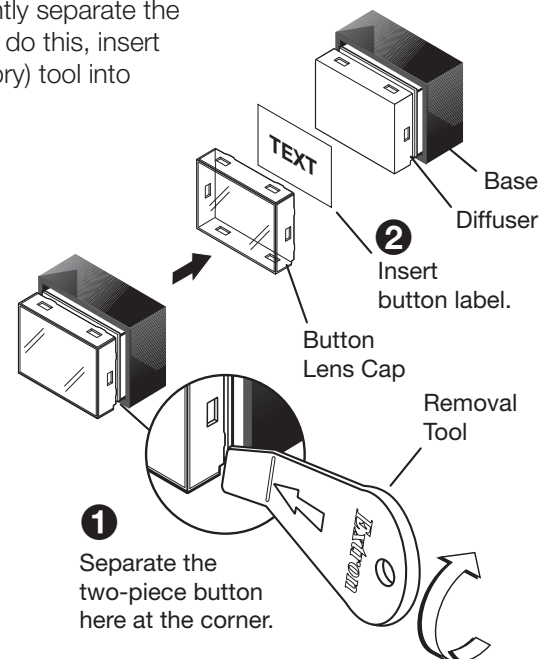

Figure 13. Replacing Button Labels on a US Gang Model NBP
2. For each button label to be replaced, gently separate the button lens cap from its white diffuser. To do this, insert the end of the provided Extron removal (pry) tool into the corner notch and gently twist the tool (see figure 13, ①).
5. Insert the button label into the button cap (see ②). Check for correct label orientation.